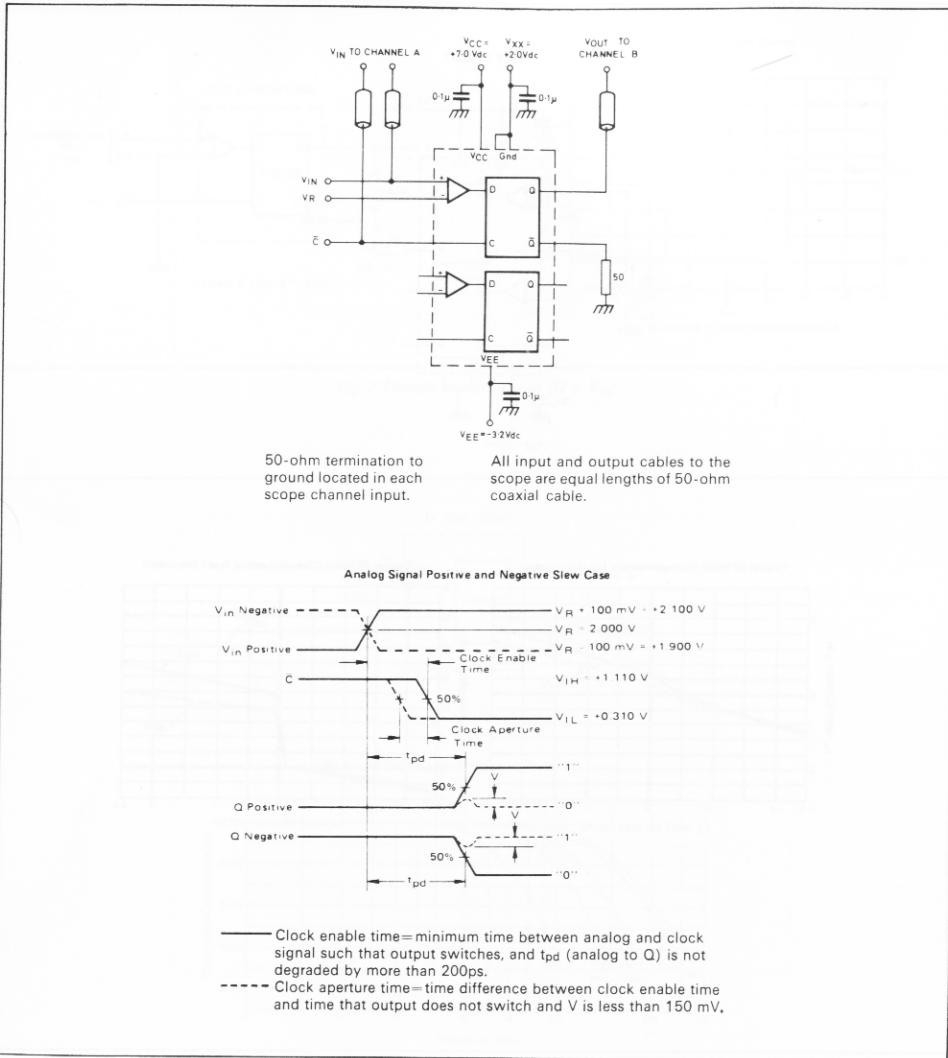

Fig. 10 Clock enable and aperture time test circuit and waveforms @ 25°C
② Unused clock inputs may be tied to ground
③ See Figure 10
④	All Temperatures	V R2	V R3